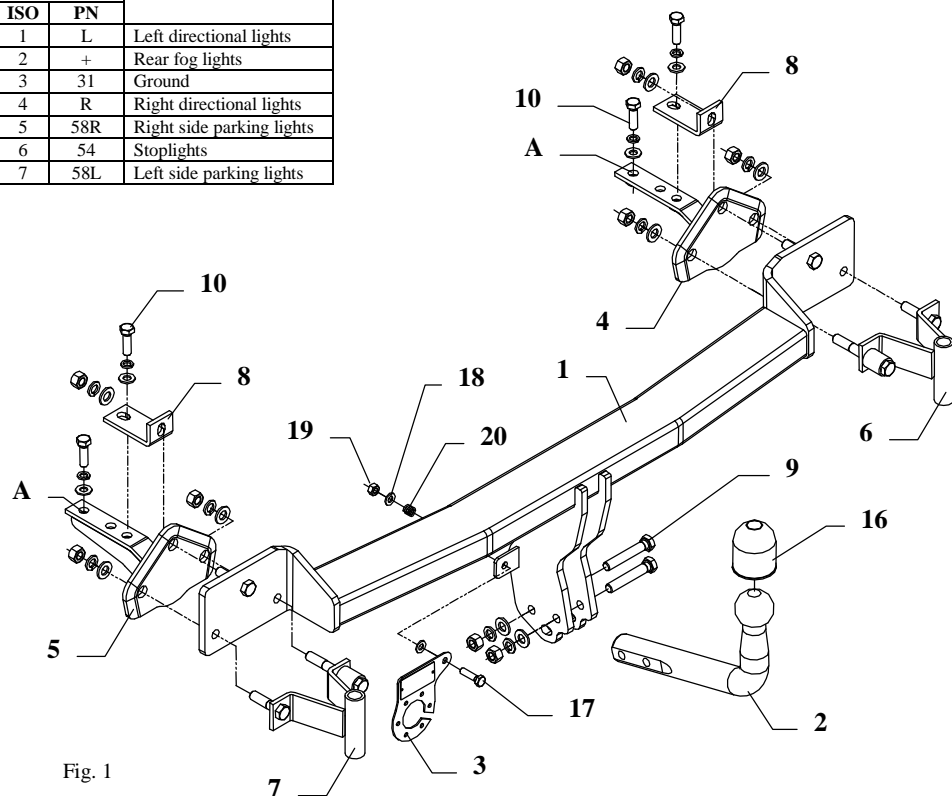

Fig. 1
4. Insert brackets (pos. 4 and 5) to chassis members (as shown on the fig. 1) and fix loosely through holes (pos. A) using bolts M10x35mm (pos. 10).
5. Fix handles (pos. 6 and 7) to the aluminium part of the bumper and next fix its plastic part.
6. So prepared towbar put to the rear part of car, put side brackets and angle bars (pos. 8) and fix.
7. Fix tow-ball (pos. 2) using bolts M12x70mm (pos. 9) from accessories.
8. Fix the socket plate (pos. 3) as shown on the drawing.